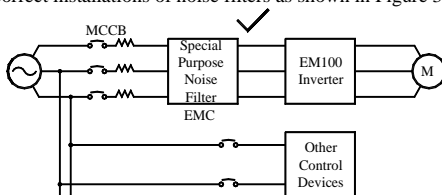

Figure 3-7 Correct Installation of Noise Filter
- Correct vs incorrect installations of noise filters as shown in Figure 3-7 and Figure 3-8.